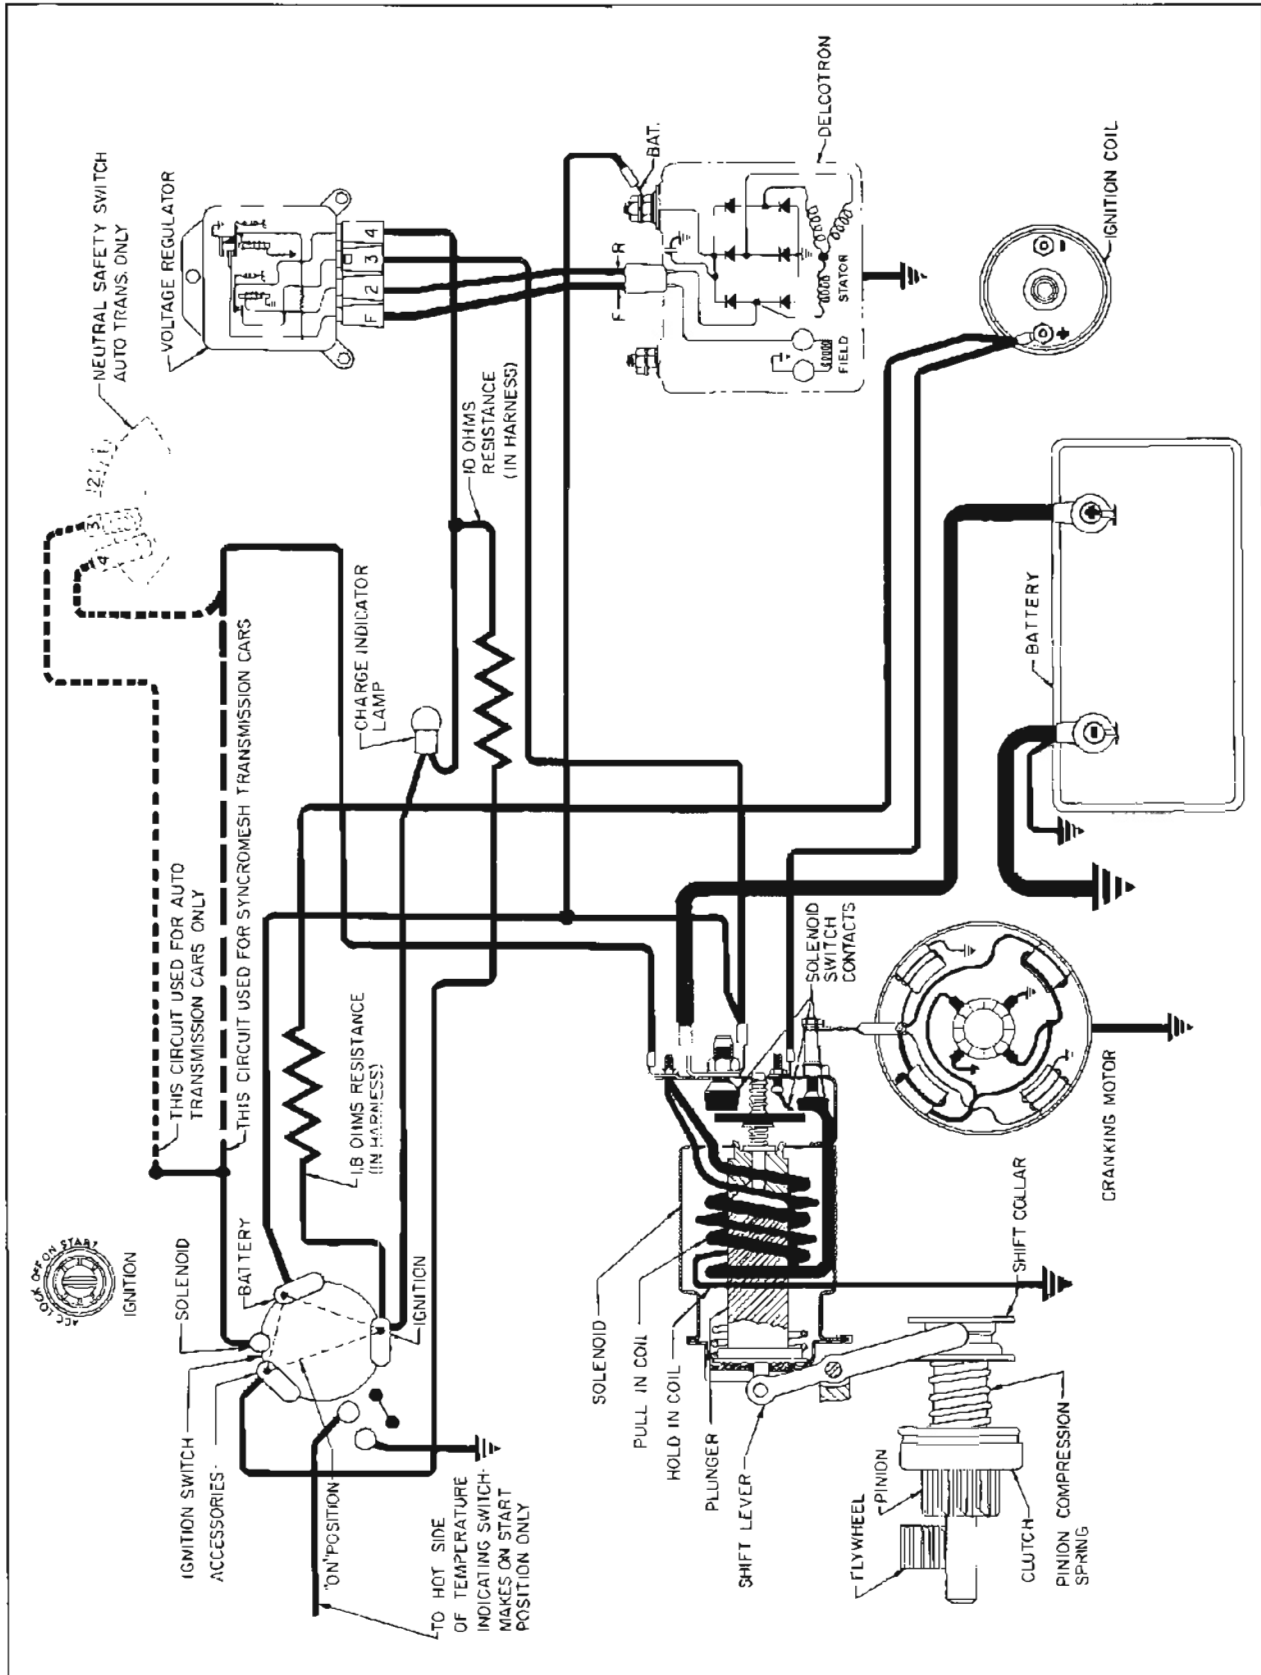

Figure 10-24—Starter and Generator Circuit Diagram
1. Test current output as described above. See Figure 10-24. Leave all test instruments in place, but make sure field jumper is removed, if used.
The cranking system, shown schematically in Figure 10-24, is composed of the following units:
gear. The solenoid switch contacts then closes after the drive pinion is partially engaged with the ring gear; this prevents any possible gear clash. See Figure 10-24.
The closing of the solenoid switch contacts causes the motor to crank the engine and also cuts out the "pull-in" coil of the solenoid, the magnetic pull of the "hold-in" being sufficient to hold the pinion in mesh after the shifting has been performed. This reduces the current consumed by the solenoid while the cranking motor is operating. See Figure 10-24.